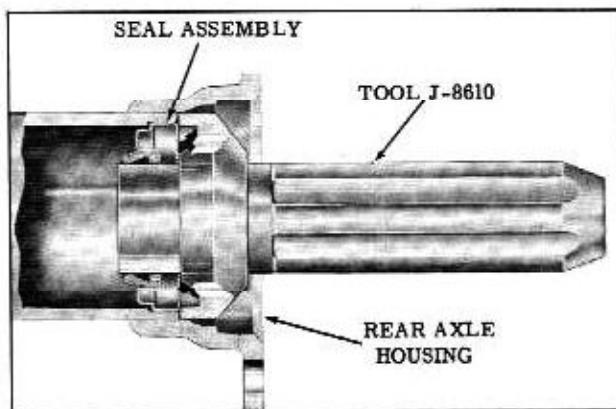

Figure 6-29 Installing Axle Shaft Oil Seal
2. Position seal at axle housing and drive in with Tool J-8610 until tool is firmly seated. (Fig. 6-29) This will properly position seal.